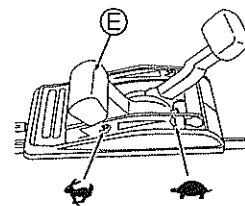

Fig. 13
- Confirm that there is no person behind you when pulling Starter knob (V).
- Securely grab Starter knob (V) when you pull it.
- Return Starter knob (V) slowly.
- 5 Warm up the machine before use. After the engine has warmed up, start mowing by setting Throttle lever (E) to "I". (See Fig. 13)